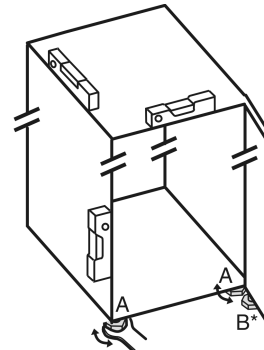

Fig. 5
- ▶ Unscrew the adjustable feet Fig. 5 (A) using the open-end wrench provided and a spirit level until the appliance is firmly aligned and level.
- Unscrew the adjustable foot *Fig. 5 (B)* at the swap bearing block using the open-end wrench provided until it rests on the floor.
- Turn the adjustable foot *Fig. 5 (B)* another 90°.